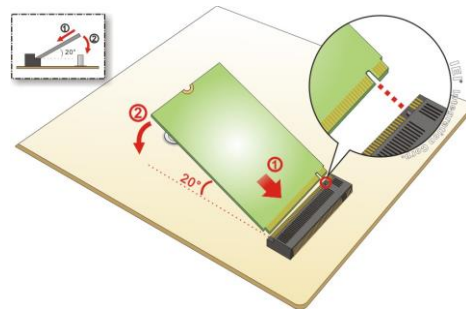

Figure 3-7: Inserting the WLAN Module
- Step 3:** Line up the notch on the WLAN module with the notch on the slot. Slide the WLAN module into the slot at an angle of about 20° (**Figure 3-7**).